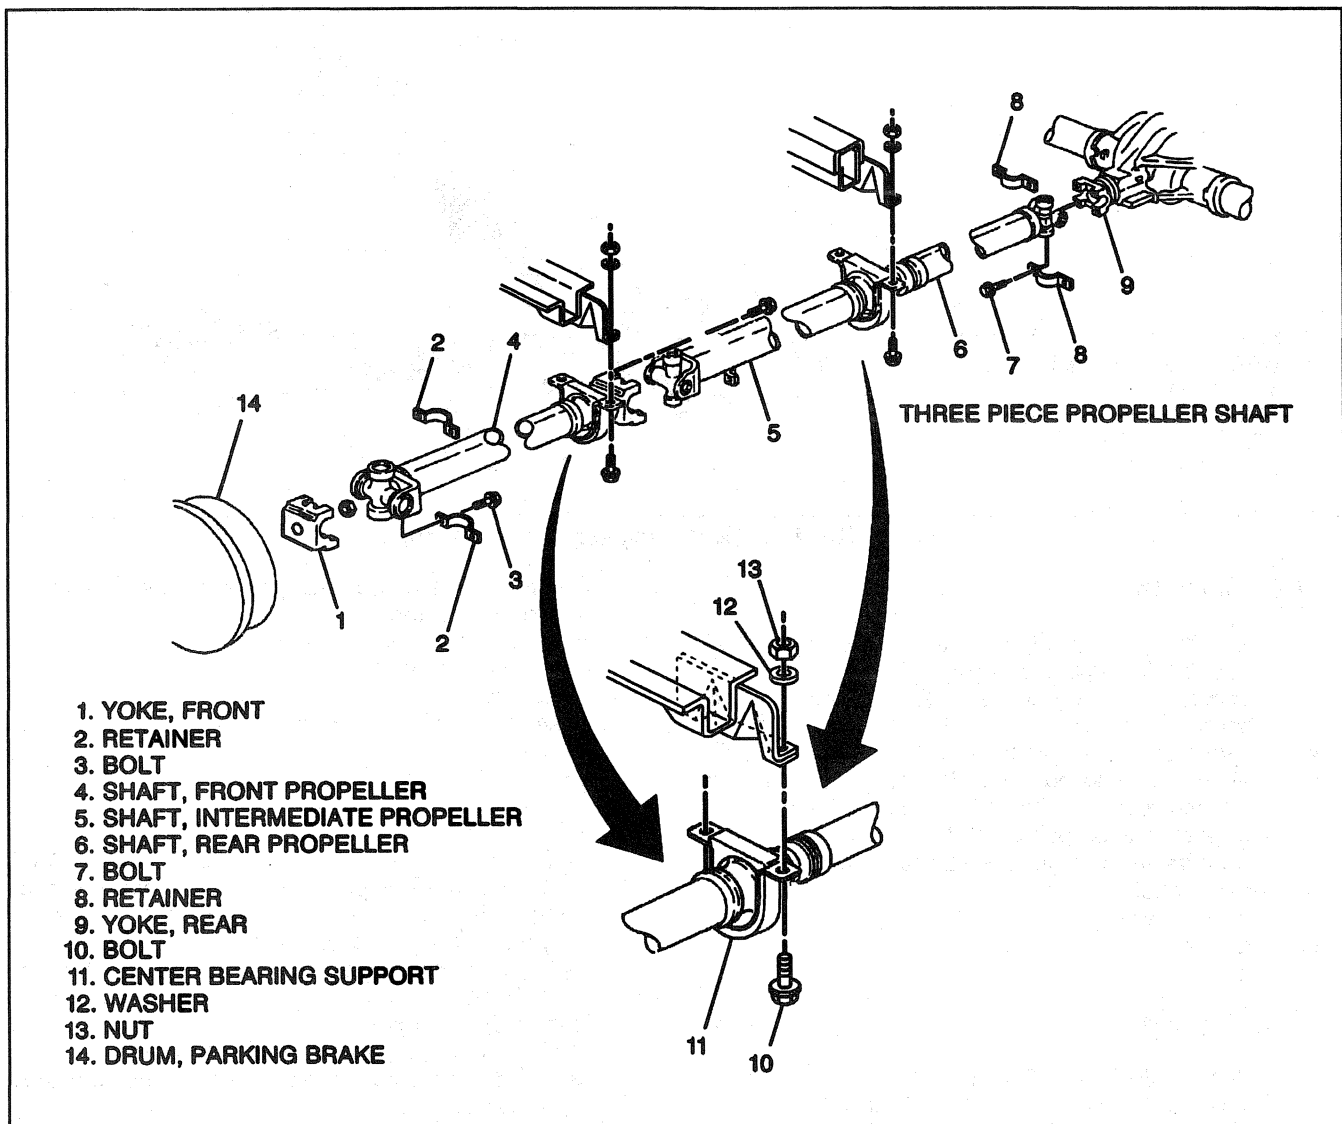

Figure 11—Three-Piece Propeller Shaft
- Nuts to 35 N.m (26 lb ft). Maintain alignment (Figure 11).
- Align the center bearing support 90 degrees to both the front and intermediate propeller shaft centerlines (Figure 11).
Remove or Disconnect (Figure 11)